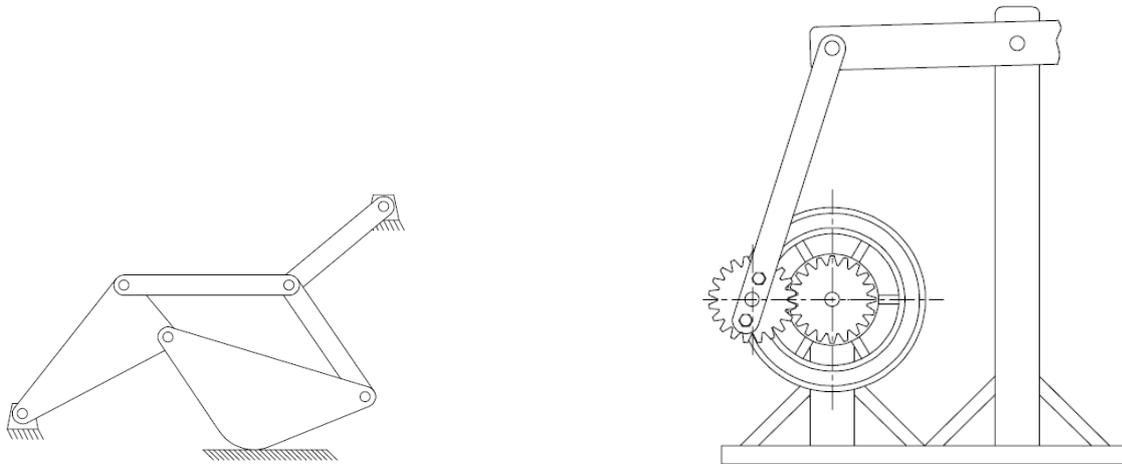

Figure 1
1. Calculate the *DOF* of the linkages shown in Figure 1. (20%)